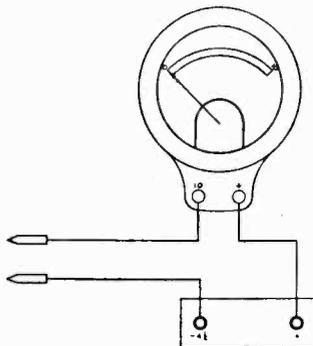

Fig. 11—Wiring Diagram Simple Continuity Test Circuit.
If the instrument is being connected to an antenna and ground installation which was used with a previous set, make a careful inspection of all lead-in and ground wires and connections to see that they are properly insulated and free from broken or corroded joints. Check the lightning arrester, making sure that it is not grounding the antenna. This can best be accomplished by using a "C" battery in series with a low range voltmeter (see Fig. 11). With the antenna and lead-in wires disconnected from the arrester, there should be no continuity between the antenna and ground terminals of the lightning arrester.
- b. Open fuse in amplifier-speaker unit. Pull out wall plug, turn off switch, remove fuse cover, and examine fuse: if necessary make a continuity test with a D. C. voltmeter and a 4½ volt "C" battery in series as shown in Fig. 11.
- a. Broken wire or connection. Examine all leads carefully and if necessary use the continuity test meter and battery as shown in Fig. 11.
- b. Open or short circuit in electric pickup. Remove the pickup from the pickup arm by taking out the screw 11, Fig. 29, and pulling the connector block from the pickup terminals. Test for continuity by means of the meter and battery shown in Fig. 11. If no reading is obtained, pickup is open.